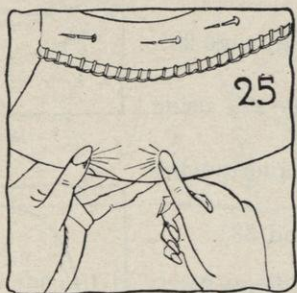

FIG. 25.
- l. Stretch crinoline at the bias part of the edge if you want the mushroom to flare more (so that it will not come too close to the face), or if you want more width at the edge (see Figure 25).
- g. To make the hat wider at the sides, stretch crinoline at edge or insert a gusset (see Figures 25 and 26, page 29).